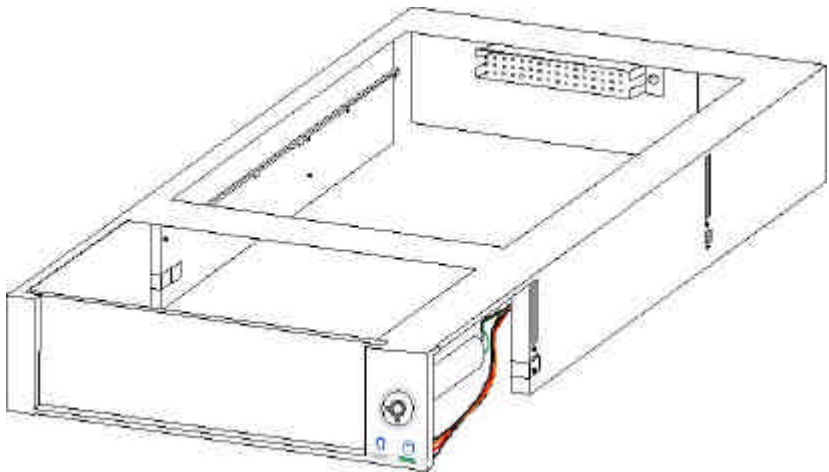

Figure 1. SuperSwap 1000 Housing Assembly
2. Slide the housing assembly (see Figure 1) into one of the 5.25" drive bays of your computer.
3. Align the front of the housing assembly with the front of your computer, then install the included screws in the four anchor holes (two on each side) of the assembly (Figure 1).